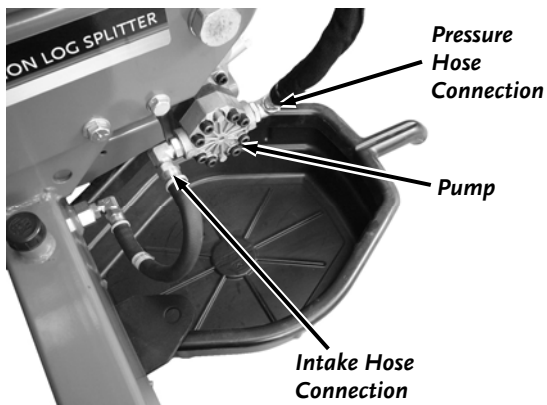

Figure 4
8. Connect the intake Hose at the Intake Elbow with a 7/8" Wrench (**Figure 4**).